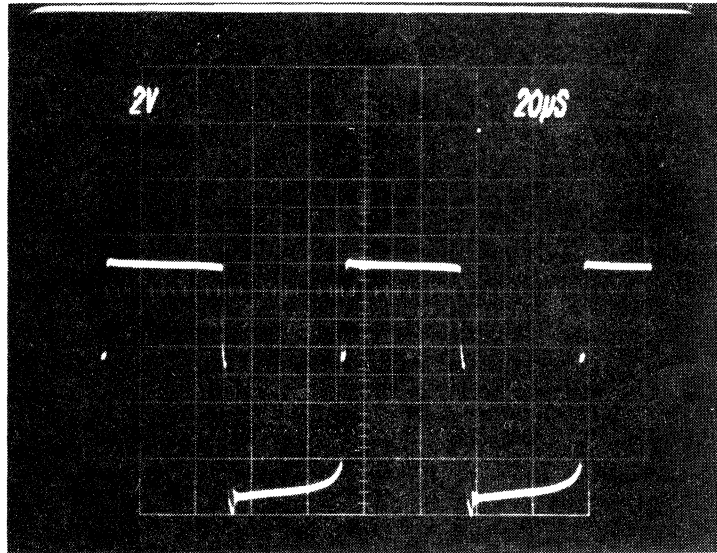

Fig. 13-5. Q2015/3015 base-emitter voltage waveform in Test Mode.
9. Push the front panel switch labeled "DC" so that the side nearest the green lamp (labeled "ON") is depressed. The scope should display the waveform shown in Fig. 13-5, or one shifted from this by 180 degree.